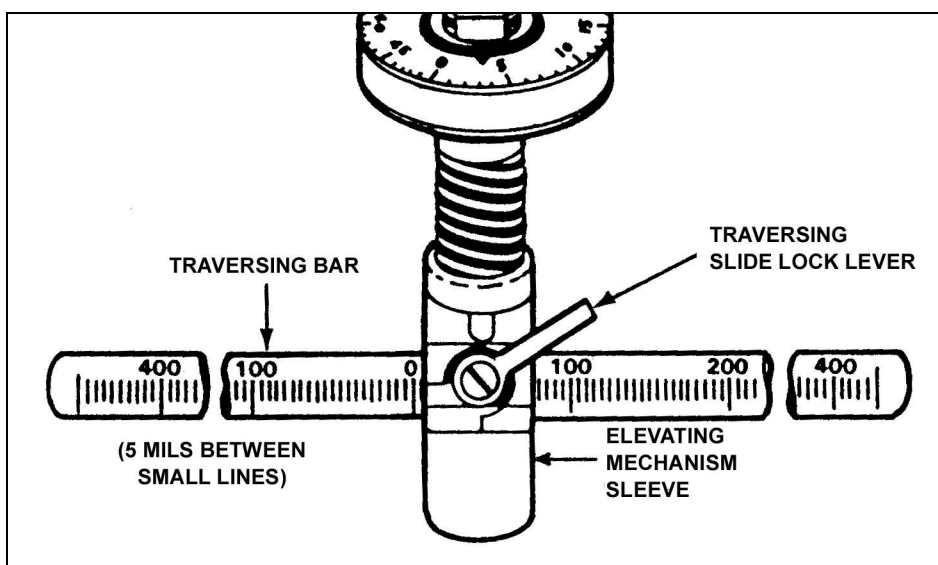

Figure 4-6. Direction reading.
c. **Obtain and Record Direction Readings to all Targets Within the Sector of Fire** (Figure 4-6). Loosen the traversing slide lock lever and move the slide along the traversing bar until the MK 19 is laid on the center of a point target or on either flank of a linear target. Lock the traversing bar and read the direction from the scale on the traversing bar. If the left edge of the traversing slide does not fall exactly on a 5-mil tickmark, move the left edge of the traversing bar slide back to the next smaller mil reading. Use the traversing handwheel to complete the initial lay. Obtain a reading to the target by the direction of the MK 19 barrel. If the barrel is moved to the right, record a right reading. Read the number on the traversing bar from the left side of the traversing slide lock. If the barrel is moved to the left and the traversing slide lock is on the right side of the zero, record a left reading. After taking a direction reading for a target, measure the width of the target in mils using the traversing handwheel to move across the target. Reposition the traversing mechanism before moving to another target.